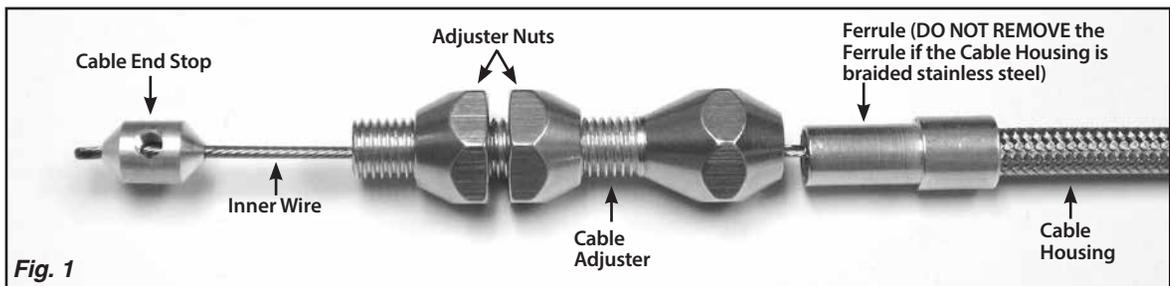

Fig. 1
**Step 1: ALL:** Remove the cable end stop and cable adjuster from the end of the inner wire. If the Release Cable has a black universal housing, remove the ferrule. If it has a stainless steel housing, **DO NOT** remove the ferrule. **Fig. 1**